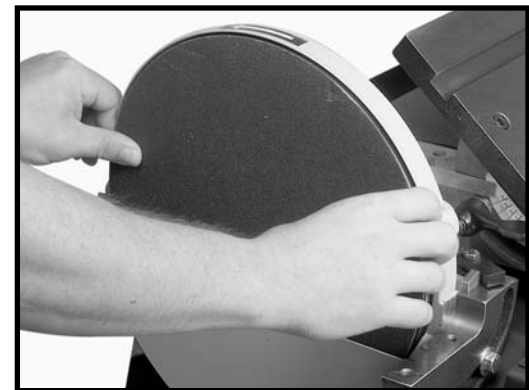

Fig. 9B
4. Press the top half of the sanding disc firmly against the disc assembly (Fig. 9B).